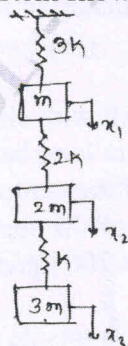

Fig.Q10 (20 Marks)
- 10 Explain Stodola's method and determine fundamental mode of vibration and its natural frequency of spring-mass system shown in Fig.Q10 by Stodola's method.